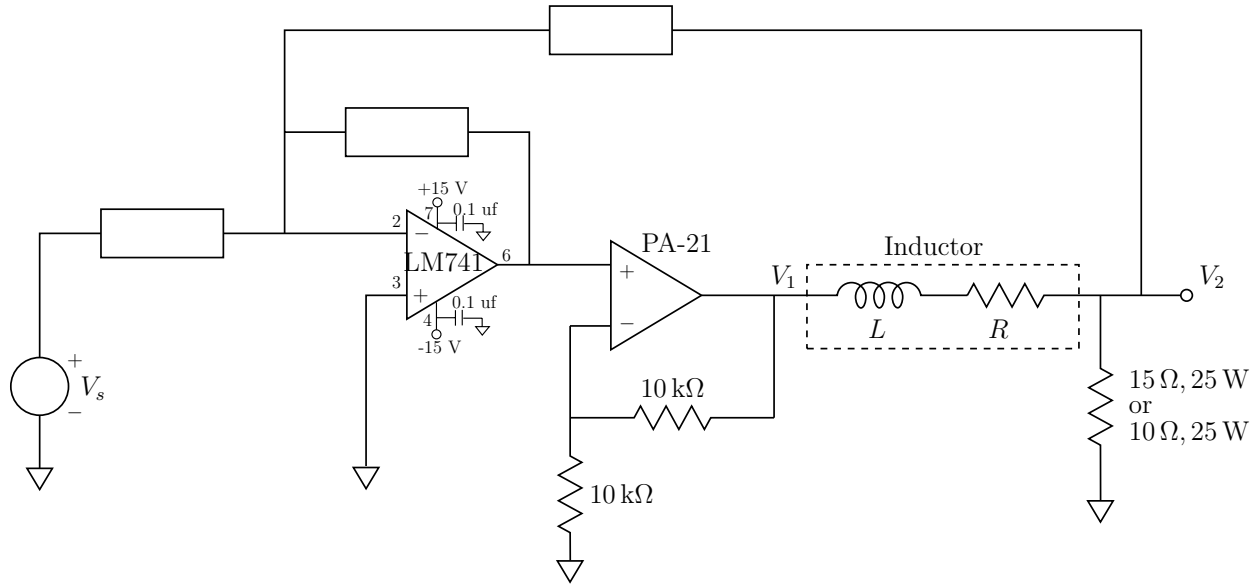

Figure 4: Closed-loop current controlled amplifier.
3. **Current controlled amplifier:** In this section, we combine the power op amp with a 741 amplifier to yield an amplifier which controls the voltage on the 25 W power resistor, and thus the current through the load inductance (to the extent that the resistor is ideal). The topology of the circuit is shown in Fig. 4. Here the 741 is to be built on the protoboard and powered from the protoboard supply. The supply connections are shown on the circuit diagram. Be sure to include bypass capacitors on each supply pin in close proximity to the chip.
Use the model of the inductor that you developed in the previous section at 0 A bias to choose components of the control amplifier to fill in the boxes in Fig. 4. Specifically for your measured inductance, design the control amplifier to stabilize the loop with a 1000 rad/sec crossover frequency and at least 60 degrees of phase margin. Design your amplifier so that 10 volts input yields 0.7 amps coil current at low frequencies. The controller must also include an integral term so as to have high accuracy at low frequencies. Include in your report a block diagram showing the transfer functions